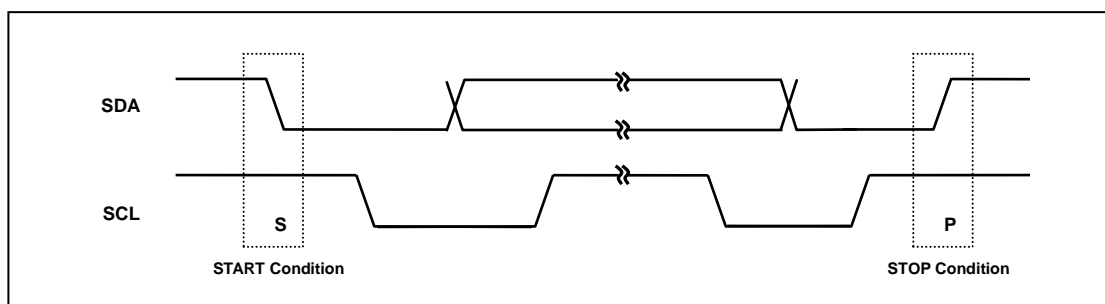

Figure 14.6. START and STOP Condition
Within the procedure of the I²C-bus, unique situations arise which are defined as START(S) and STOP(P) conditions; see Figure 14.6.